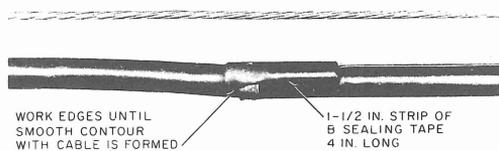

Fig. 46—Top Strip of B Sealing Tape in Place
- (g) Remove the temporary tie and press the ground wire into the sealing tape. Cut a 4 inch long, 1-1/2 inch wide strip of B sealing tape. Lay this over the 1-inch wide strip with the extra length filling the sheath opening. Press the top strip firmly over the strip underneath until all crevices are filled and the edges are contoured to the surface of the cable as shown in Fig. 46.